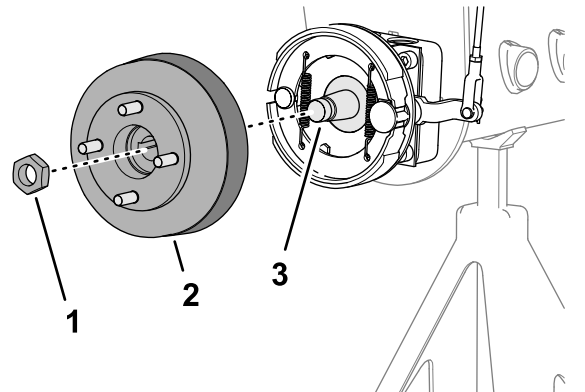
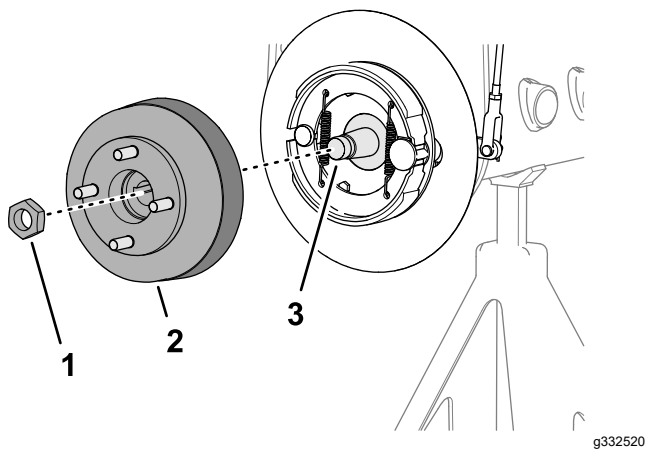

Figure 63
Figure 64
1. Remove the locknut that secures the hub to the wheel-motor shaft (Figure 63 or Figure 64).
4. Use the specified wheel hub puller to remove wheel hub and brake drum from the wheel-motor shaft (Figure 63 or Figure 64).